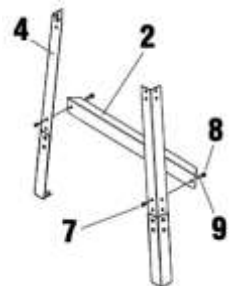

Fig. 2
6. Align the mounting hole located at each end of a bottom long brace (#2) with the mounting hole located on the lower inside edges of the legs (Fig. 2).
7. Insert 2 carriage bolts through the aligned mounting holes, attach spring washers and nuts and then tighten partially (Fig. 2).